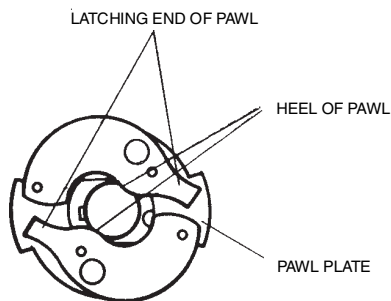

Figure 3.3.4C
11. Measure the clearance between the boss on the underside of each (2) impulse pawl and the pawl plate using a feeler gage. Position the latching end of the impulse pawl over the pawl plate as shown in Figure 3.3.4C.